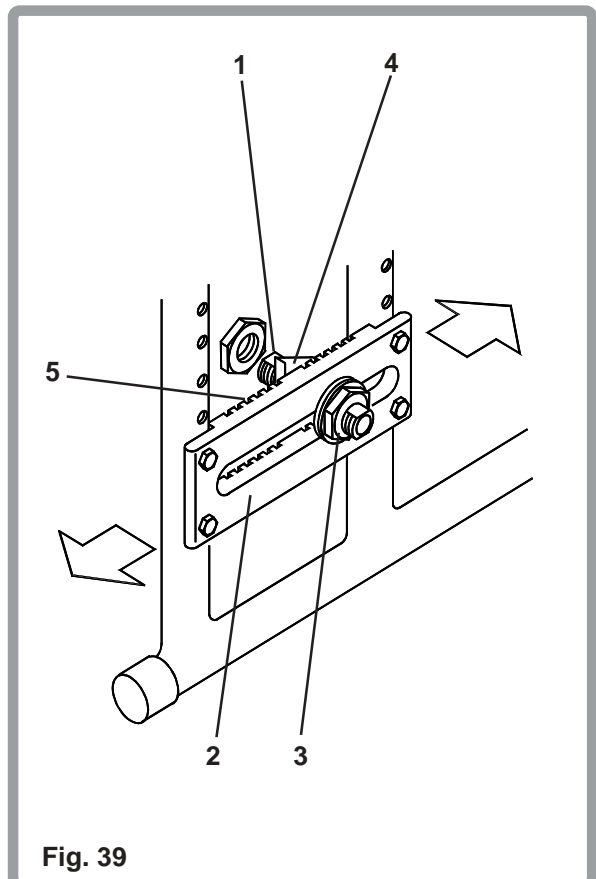

Fig. 39
The centre of gravity (Fig. 39) is adjusted by moving the axle sleeve (1) backward or forward on the indexed axle plate (2). To move the axle sleeve under the outer 28mm A/F retaining nut (3) sufficiently to allow the locking washer (4) and the axle sleeve assembly to slide in the axle plate, find the desired index slot (5) and tighten the retaining nuts to 45Nm torque.